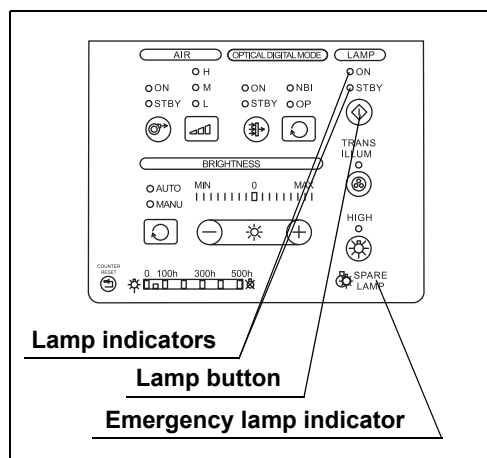

Figure 4.5
- 2 Confirm that the emergency lamp indicator on the control panel is not lighting or blinking. (See Figure 4.5)
- 3 Confirm that the examination light is emitted from the distal end of the endoscope (see Figure 4.5). When the lamp light intensity decreases even if the “500 h” indicator does not light up, replace the examination lamp with a new one as described in Section 6.1, “Replacement of the examination (xenon) lamp”.
- 4 Press and hold the lamp button for about 1 second: the lamp indicator “STBY” lights up. (See Figure 4.5)